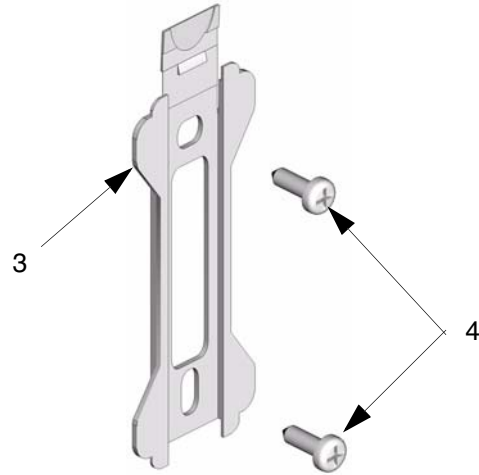

FIG. 12
Once RF communications are confirmed, the Transceiver can be permanently mounted on a desk top, wall, or ceiling. If the component will be placed on a desktop or horizontal flat surface, use the rubber feet that are supplied. The feet are adhered to round indents on the back side of the unit. If the component will be placed on the wall or ceiling, use the Matrix mounting bracket (3) and screws (4) to fasten the box to the mounting location. See FIG. 12.
3. Attach the bracket (3) to the wall or ceiling using two 1 in. sheet rock screws (4). Slide the transceiver onto the bracket.